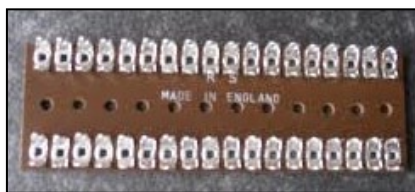

Fig. E4-3
3. Using a piece of tag strip of the type shown in Fig E4-3 below, construct a stabilised d.c. supply from the secondary terminals of a transformer.